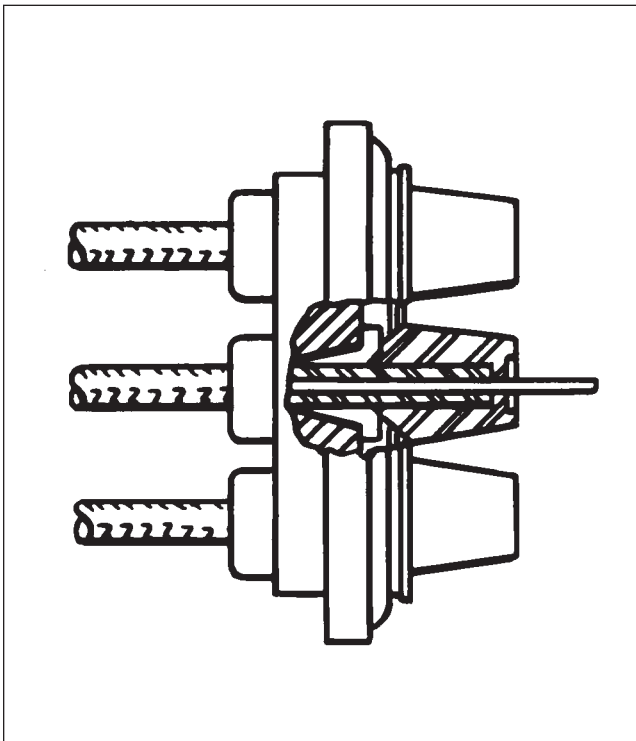
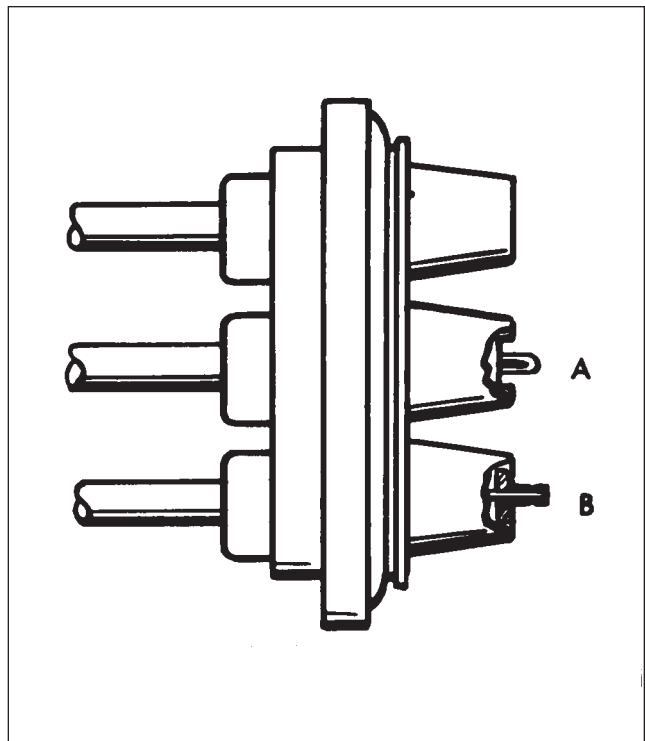

Figure 74-42. Lead Assembly Installed in Grommet
Figure 74-43. Wire Doubled Over for Installation of Eyelet
- N. Cut wire 3/8 inch from top of grommet outlet. (Refer to Figure 74-42.) Double wire over as shown in A of Figure 74-43. Slide eyelet over doubled wire until it is firmly seated in recess of grommet outlet.
- O. Using the "AB" groove of Scintilla 11-4152 Crimping Tool, or equivalent, crimp eyelet to wire. Approximately 1/32 of an inch of wire should extend from end of eyelet after crimping. (Refer to B of Figure 74-43.)